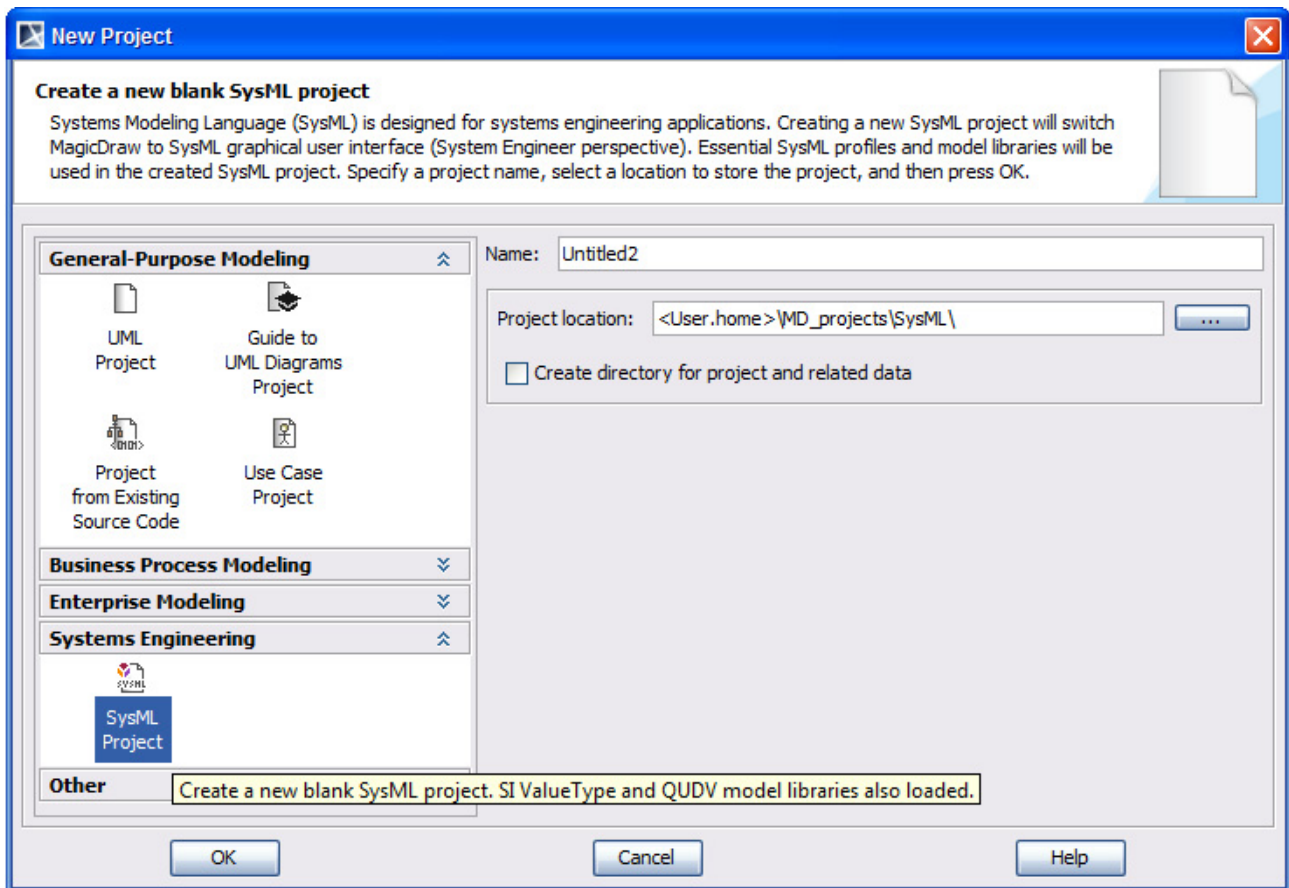

Figure 3 -- New Project Dialog
- (iii) press **CTRL+N** (keyboard shortcut).The **New Project** dialog will open (Figure 3).
2. Click the **SysML Project** icon (Figure 3).